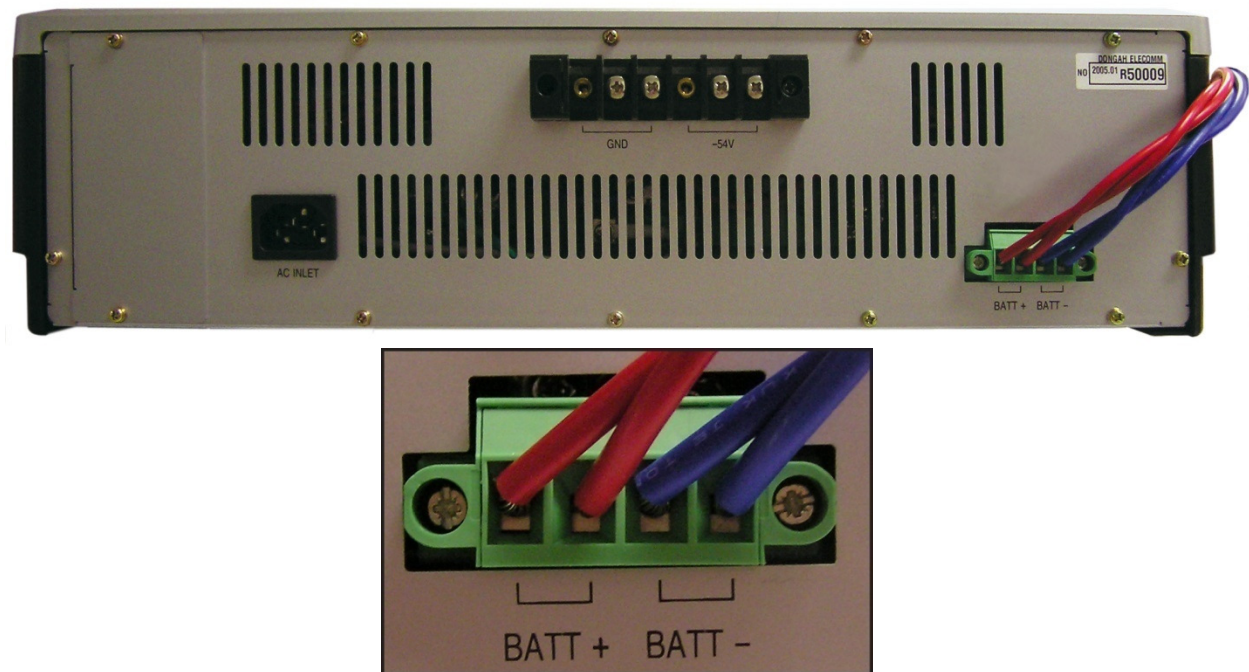

Figure 5.11 Connecting an External Battery
- 2) Connect the green keyed connector into the battery connection port of the OfficeServ 7150. The connector is keyed so you can only insert it in one way. Press it in until it is pushed in all the way (See Figure 5.11). At the other end of the battery cable, connect the red wire to the (+) Positive terminal lug of your battery, and connect the blue wire to the (-) negative terminal lug of your battery.